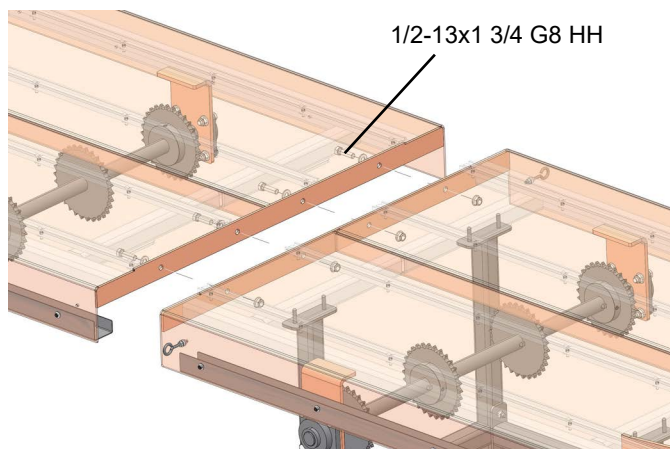

FIG. 4-10
1. Install the assembled middle section to the drive section as shown in FIG. 4-10.